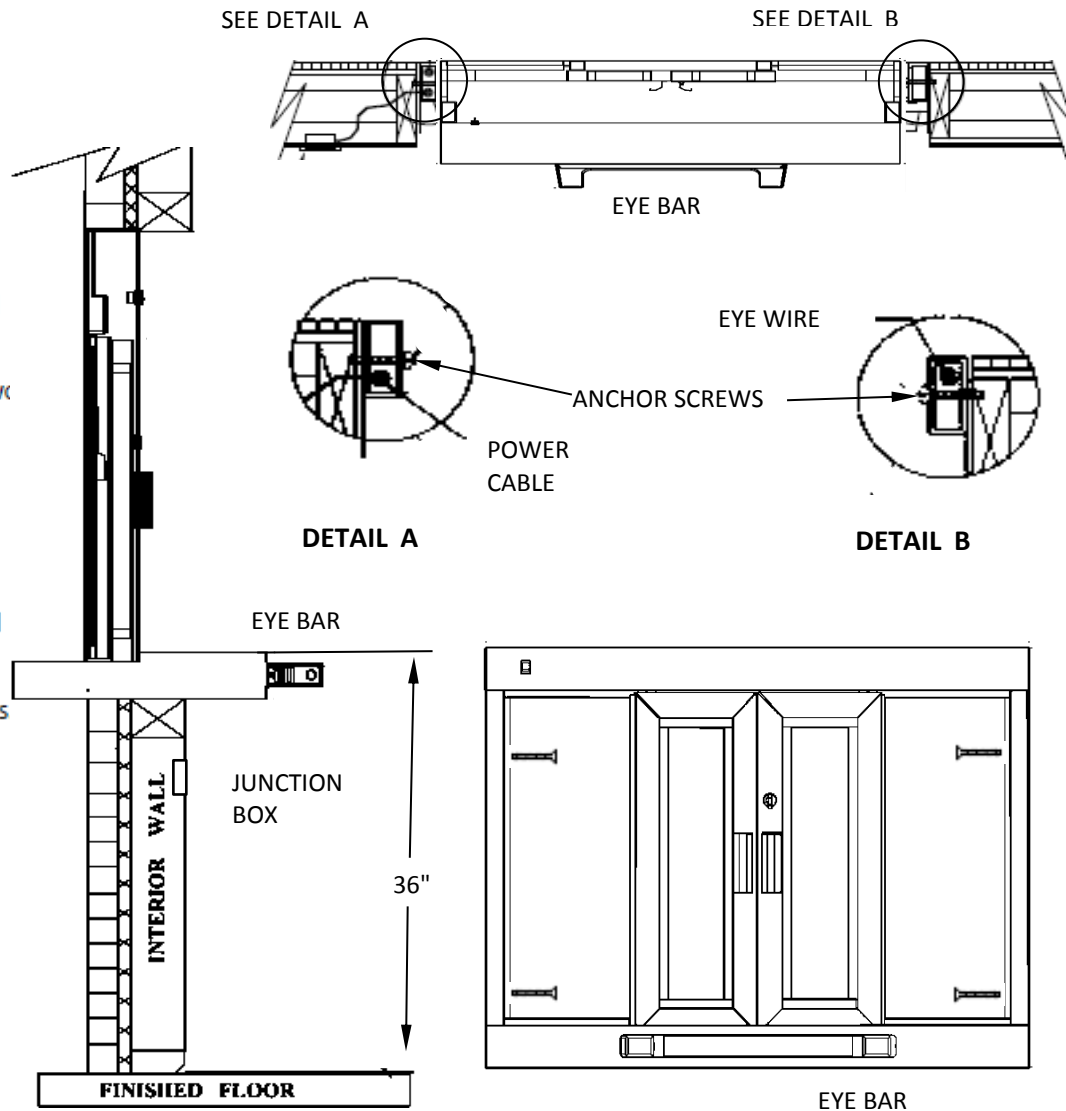

FIGURE 1
- 2) Anchor through each side jamb at two places approx. 5" at top and bottom of each jamb. (See Fig. 1)